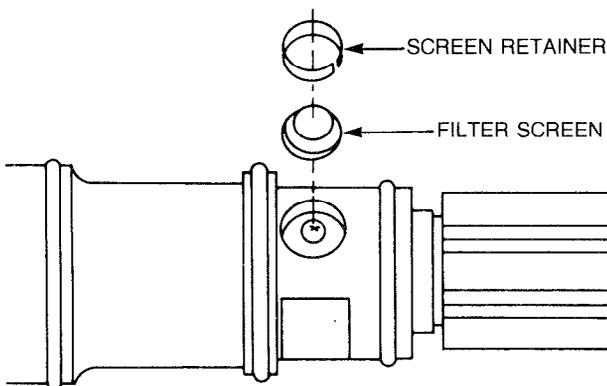

Figure 131 — Filter Screen and Screen Retainer — Installation
- aa. Remove the link and the injector pot adapter from the injector, then install the filter screen and the screen retainer (see Fig. 131).